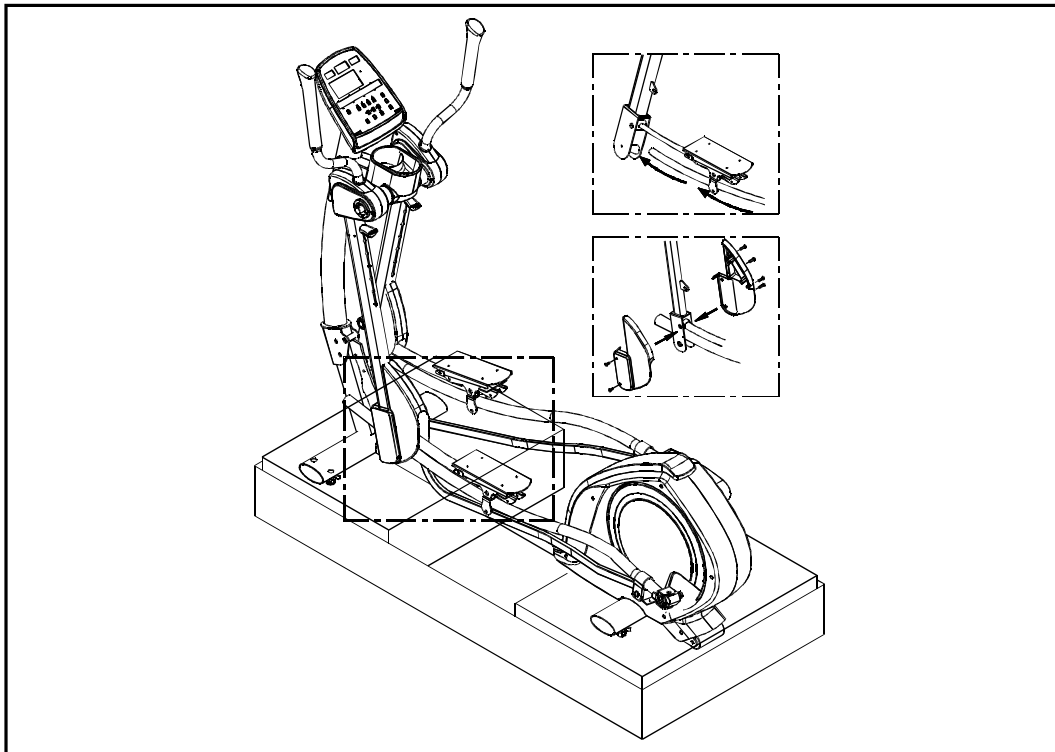

Fig.2
STEP 3. Then, raise the Stride Support Assembly ① and pedal carriage ②. Place the tip of the foot pad surface on the ground ③. Do this step on the other side of the unit as well.
STEP 5. Slip the Glide Rail into place under the Pedal Carriage and also on the roller on the stride support Assembly. Unsecure the bolts from the Rocking Bars and then put the Rocking Bar Covers place and secure them as Fig. 2 shown below.